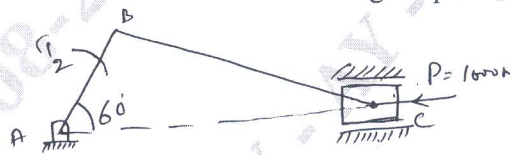

Fig.Q1(b)
- A slider crank mechanism is shown in Fig.Q1(b). The force applied to the piston is 1000N when the crank is at 60° from IDC. Calculate the driving torque T_2 .